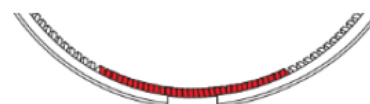

FIG. 4
- Many coil expander springs have a variable pitch design that has an area with reduced spacing between the wire of the expander coils. This area needs to be centered at the gap of the ring body. *FIG 4. End gap specification is .010-.020"